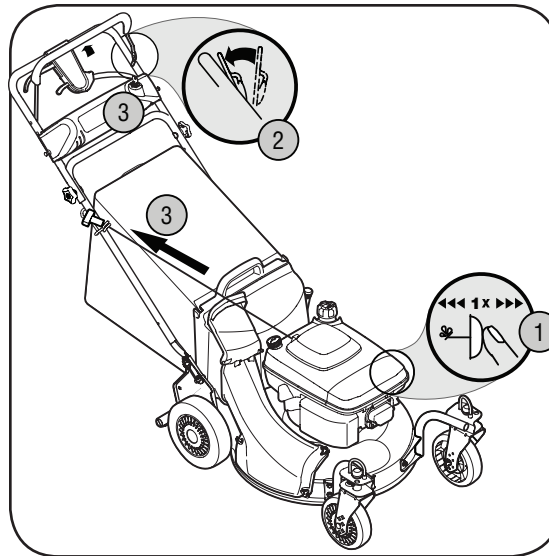

Figure 4-2
2. Standing behind the mower, depress the blade control and hold it against the upper handle. See Figure 4-2.